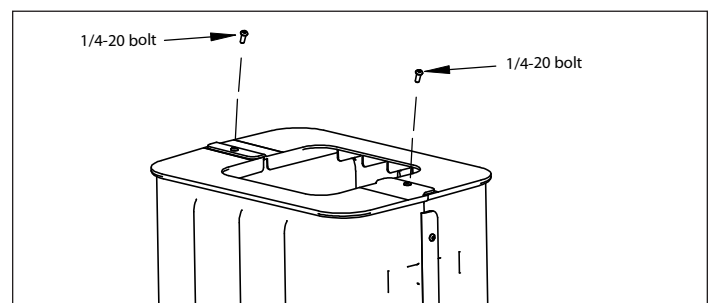

FIGURE 7
- 6) Place bolt through each of the two holes on top of the joined hopper extension. Secure with flat washer and flange nut. **SEE FIGURE 7**